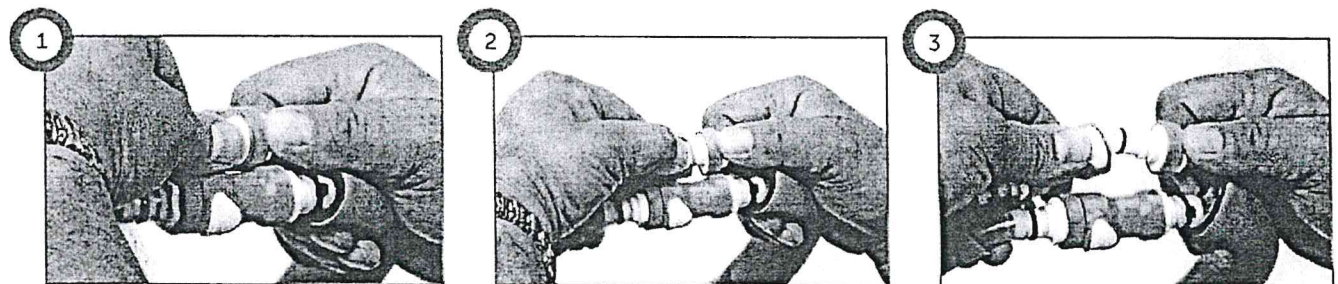

Fig 10.
- When disconnecting the couplings, simply hold the couplings in both hands and press the white release button as shown in Fig 10. The couplings will spring apart. Continue to pull the couplings apart to complete the disconnect procedure.